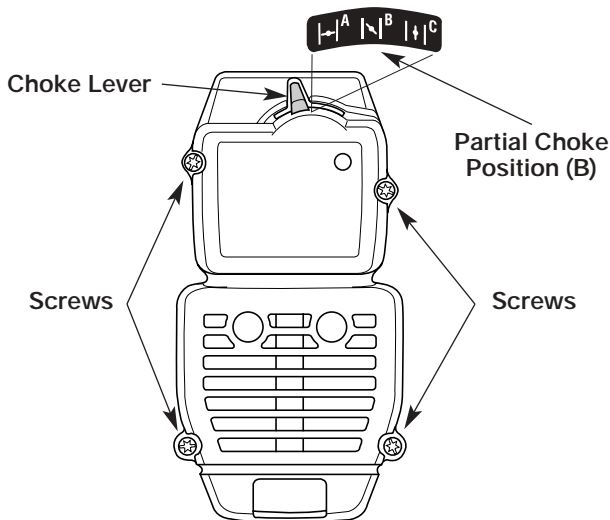

Fig. 17
2. Remove the four (4) screws securing the air filter/muffler cover (Fig. 17). Use a flat blade or T-20 Torx bit screwdriver.
2. Insert the four (4) screws into the holes in the air filter/muffler cover (Fig. 17) and tighten.